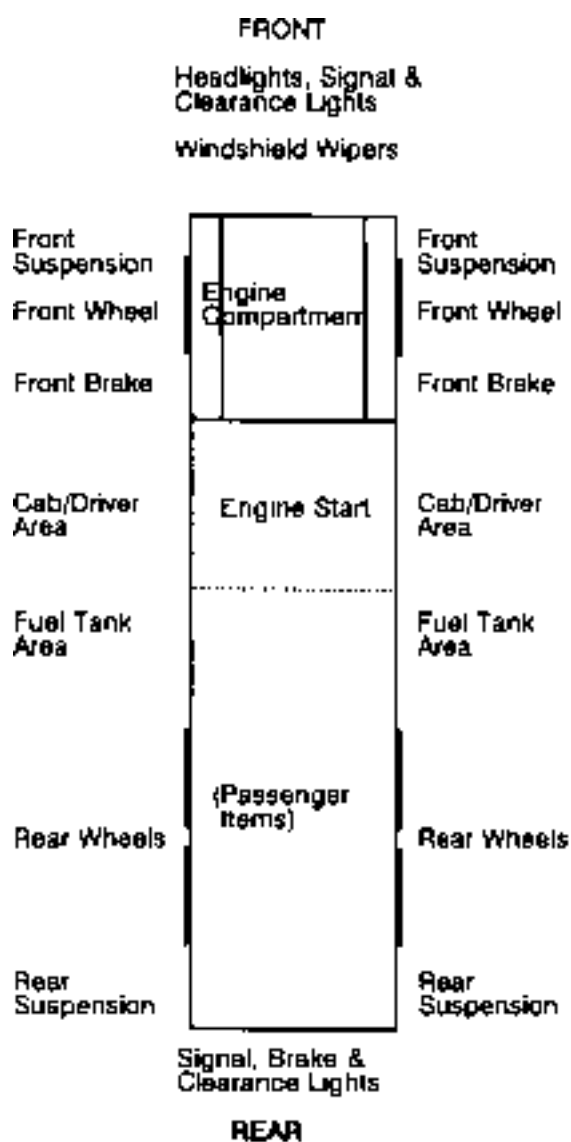

Figure 2-5 Straight Truck/School Bus
In order to obtain a CDL you will be required to pass a pre-trip vehicle inspection test. You will be tested to see if you know whether your vehicle is safe to drive. You may be asked to do a pre-trip inspection of your vehicle and explain to the examiner what you would inspect and why. Section 10 of this manual tells you what to inspect and how to inspect it. Some states allow the guides shown in Figures 2-5, 2-6, and 2-7 to be used as a memory aid when taking your test.
**Method of inspection.** You should do a pre-trip inspection the same way each time so you will learn all the steps and be less likely to forget something. The following seven-step method should be useful. Guides are shown in Figures 2-5, 2-6, and 2-7.